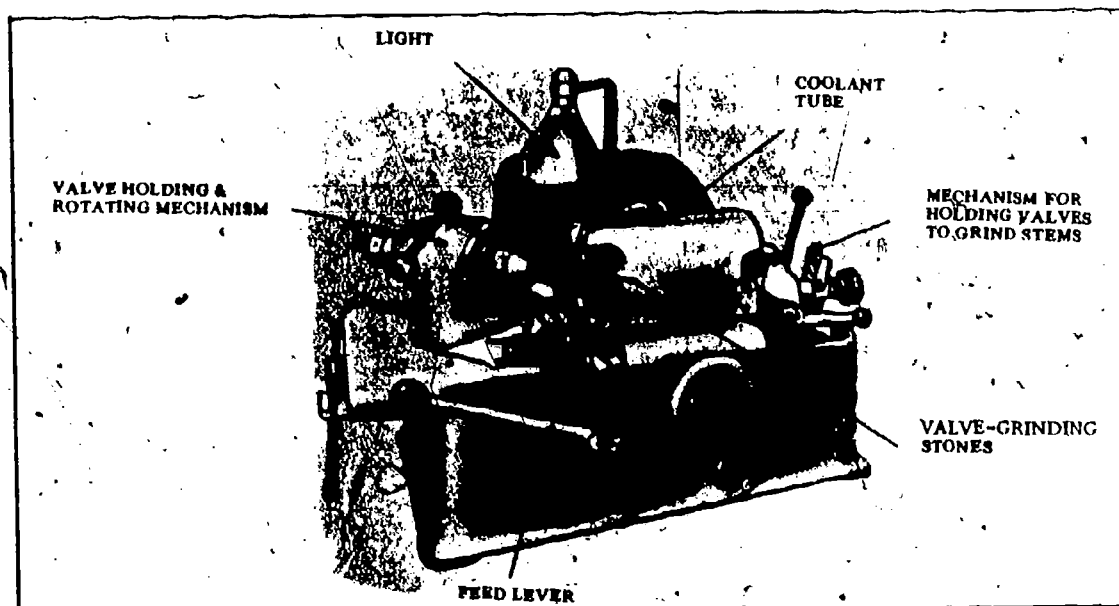

Fig 1-22. Valve face grinding machine.
- (2) The portable electric grinder is normally stored in the toolroom or on the portable electric arc welder and is taken to the job for use. It is a lightweight electric motor used to turn either an abrasive stone or wire wheel. Located between the electric motor and the abrasive wheel is a gearcase which increases the output shaft speed. The operating rpm stamped on the machine is not the rpm of the motor, but the rpm of the shaft where the abrasive stone is mounted. Organizational maintenance of the tool is limited to cleaning, inspecting, replacing brushes, and cleaning and repacking the gearcase. The portable electric grinder is seldom repaired beyond the organizational maintenance level. It is cheaper to turn in the old grinder and order a new one.
- (3) Abrasive stones receive much wear and tear and require close inspection, maintenance, and frequent replacement. They should be checked before each use. The stones are made with different grades or roughness such as coarse, medium, and fine. Some are also numbered like sandpaper: 00, 1, etc. They are designed to be used at a specific speed. Before installing a stone on the shaft, check the rpm of the shaft and the rpm stamped on the stone. Don't use a stone on a machine whose rpm rating is higher than that listed on the stone. If the stone is worn to less than 2/3 its original diameter, it should be replaced. In other words, don't use a 6-inch stone that has worn to less than 4 inches. A stone that is cracked, regardless of how small, should not be used. For those stones that are nicked, the mechanic can smooth the face with a wheel or diamond-point dresser. These dressing tools are allowed to rest on the tool rest, and are worked against the abrasive stone as the grinder is operating. The diamond-point dressing tool is an item that requires special care. It appears to be a straight punch and is easily lost; however, the punch-shaped metal has a black diamond embedded in one end and is a very expensive item. It is normally used only on the smoother stones used for precision grinding.
- (4) A special-type grinder is the valve face grinding machine (fig 1-22), which is found in the machine shop. It is a special-purpose machine used only for grinding valve faces and stems. By using a dial indicator and properly adjusting the machine, precision grinding can be accomplished. It is equipped with two electric motors; one turns the abrasive stones at high speeds, the other turns the valve and pumps coolant and is relatively slow. The coolant tube is adjusted so that the coolant flows on to that portion of the valve being ground. The stones are specially made in many shapes. They are dressed prior to each use so that the correct angle can be maintained. The dressing tool is fitted into a fixture and can be mounted on the machine. Only a diamond-point dressing tool is used to dress the stones for the valve-grinding machine. Organizational maintenance of the machine is limited to cleaning, tightening, and replacing stones. Higher echelon maintenance personnel can make minor repairs to the electric motors and ordnance maintenance personnel can make minor repairs to other parts of the machine.